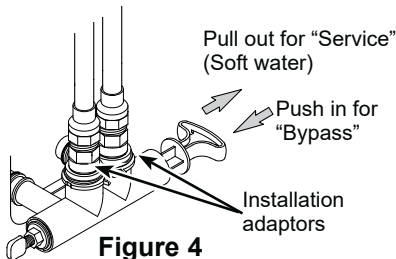

Figure 4
Always install either a single bypass valve (provided), as shown in Figure 4, or, if desired, parts for a 3 valve bypass system (not included) can be purchased and assembled, as shown in Figure 5. Bypass valves allow you to turn off water to the softener for maintenance if needed, but still have water in house pipes.
2. Place the bypass valve (single or 3 valve) into the "bypass" position (see Figures 4 or 5).
- Single bypass valve (Figure 4): Slowly move the valve stem toward "service," pausing several times to allow the water softener to fill with water.